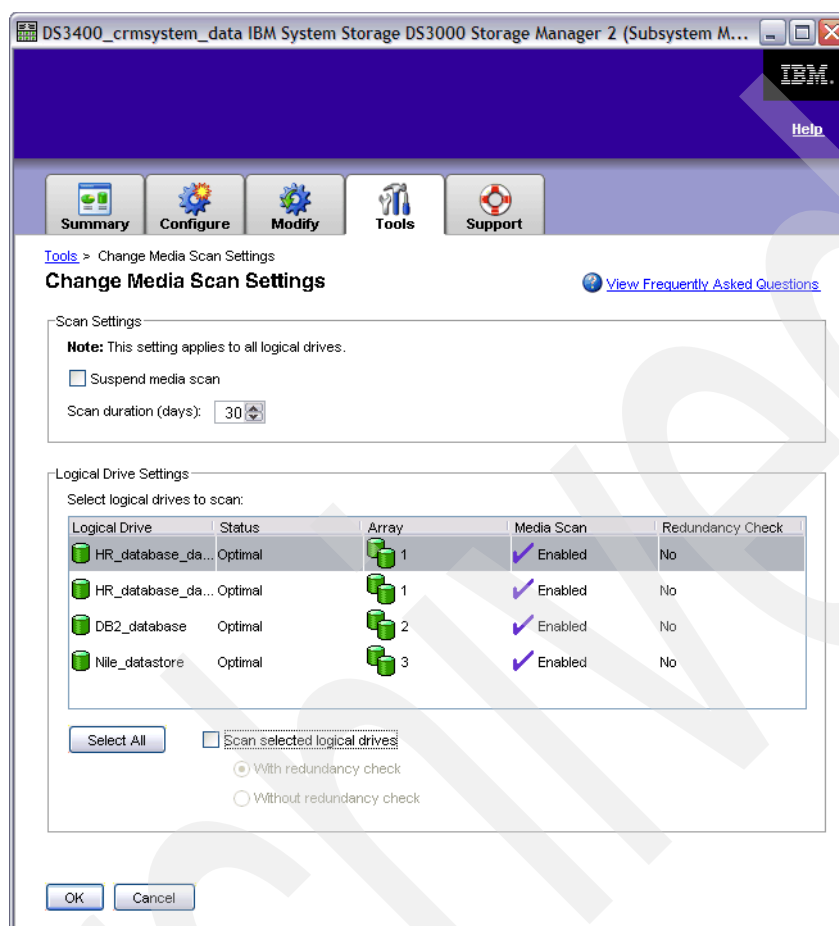
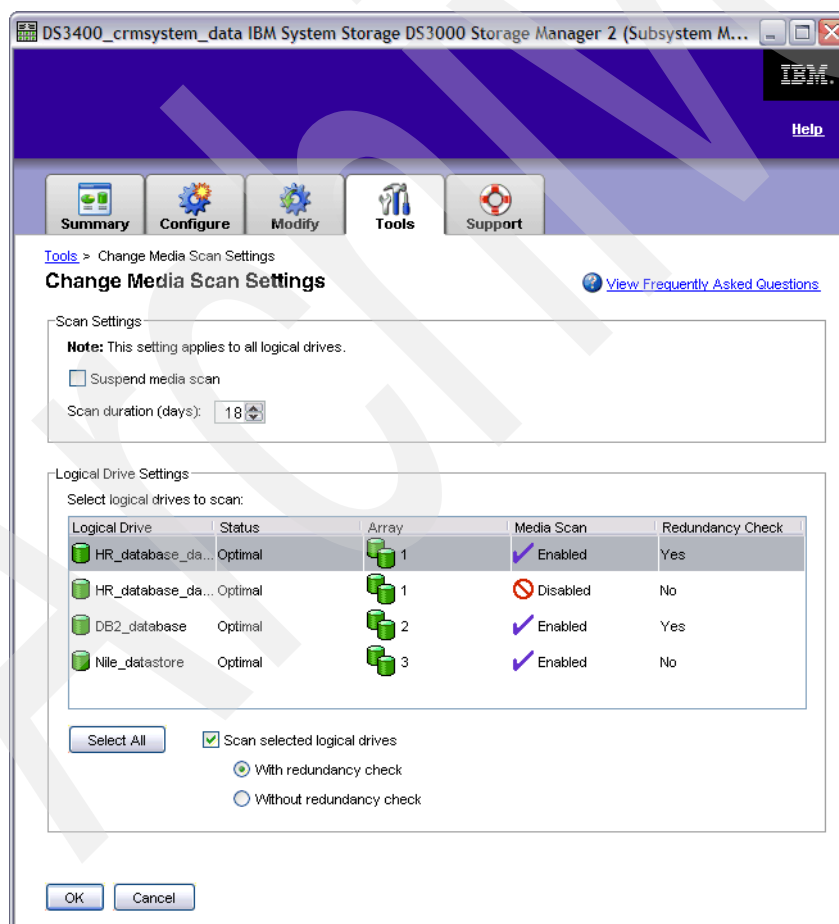

Figure 12-22 Media Scan Settings - standard settings
Figure 12-24 Customized media scan settings
Click **Change Media Scan Settings** (Figure 12-1 on page 258) to open the associated view (Figure 12-22).
1. Highlight the logical drive(s) you want to set (Figure 12-22).
Figure 12-24 shows a Change Media Scan Settings window with customized scan settings. Compare it with Figure 12-22 on page 274: In the Select logical drives to scan box, you can see the current media scan configuration for every logical drive.